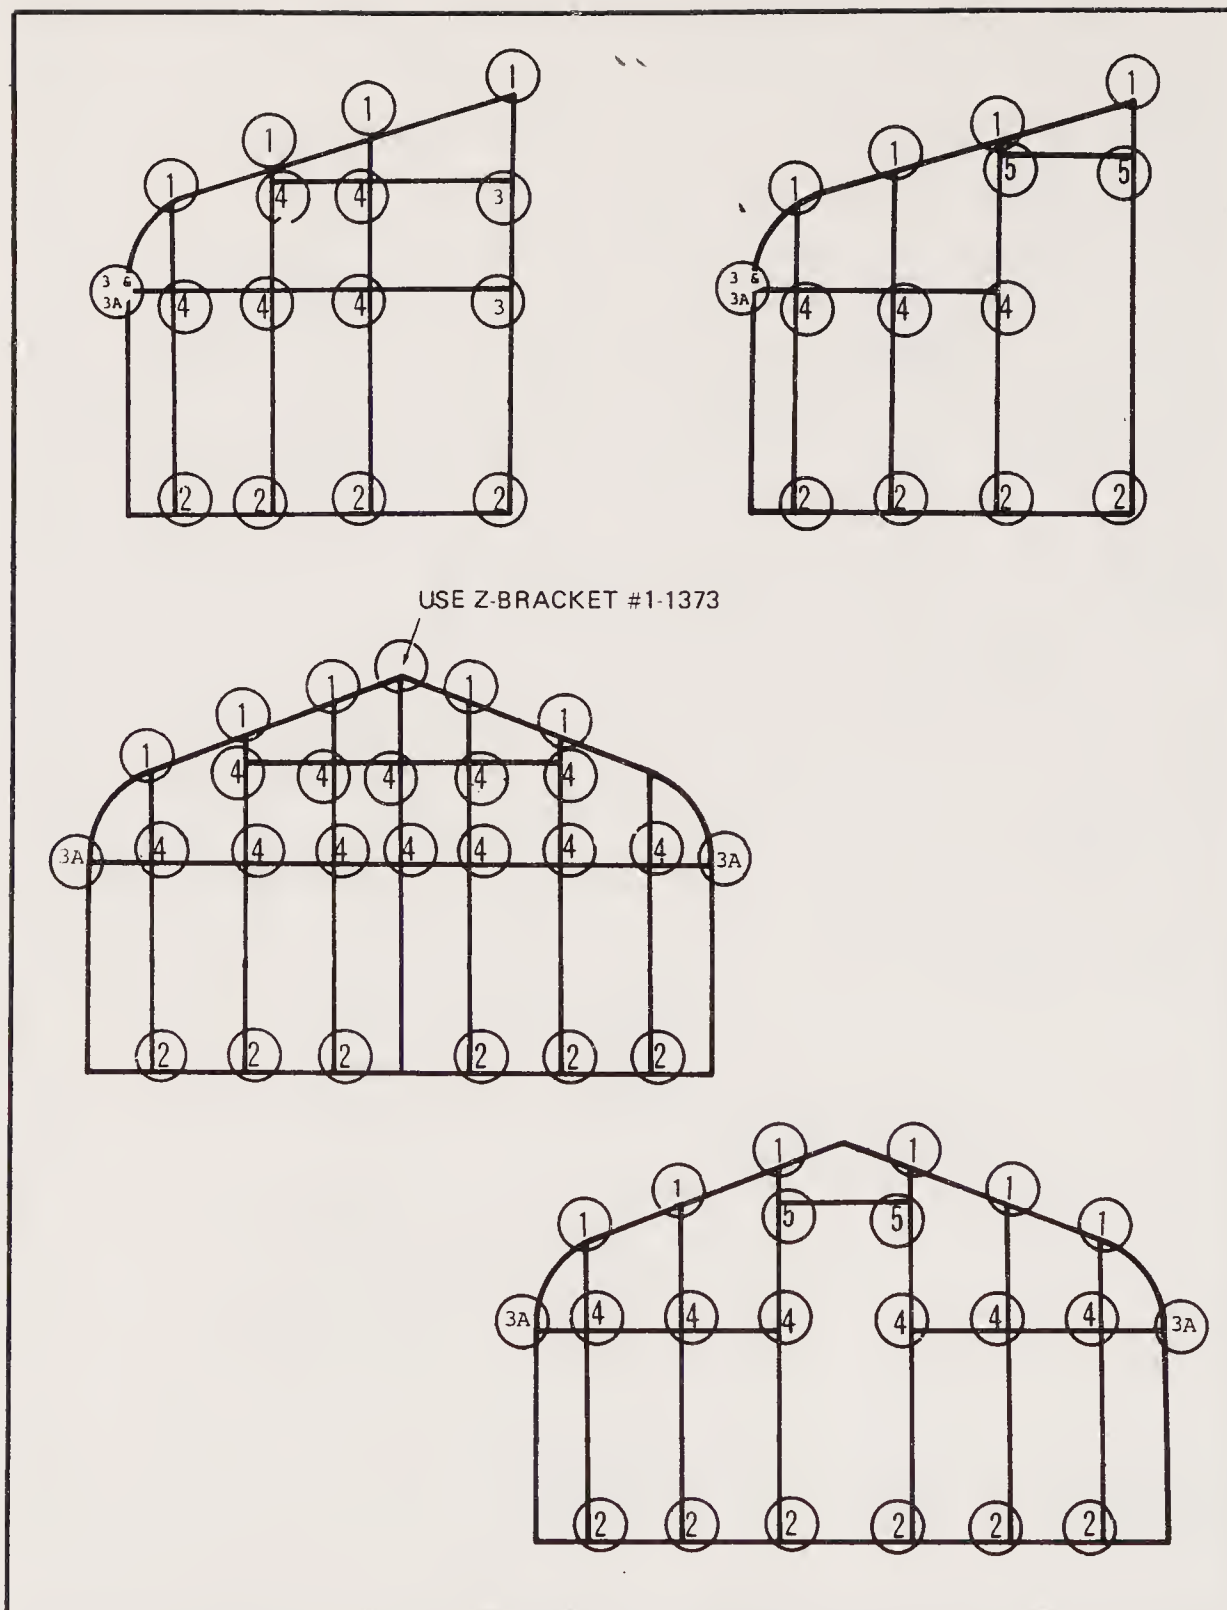

Fig. 2-130. Z-Brackets used at gable end framing (courtesy of Lord & Burnham Co.).
**All Models.** Install side and roof angle purlins using T-bolts at intermediate bars; secure them to corner bars with Z-brackets (Fig. 2-130).